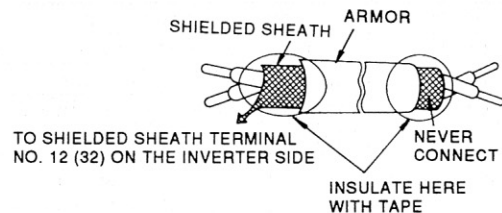

Fig. 3 Preparation of Shielded Cable Ends
- (1) The wiring for the control signals (terminals TC1 to TC4) of the analog reference card AI-14B should be separated from main circuit wiring and other power lines.
- (2) Use the shielded lead for control signal wiring and terminate the cable end as shown in Fig. 3 (to prevent malfunction due to noise). Wiring length should be 10 m or less.
- (3) If any of control signal input terminals TC1 to TC3 are not used, be sure to connect them to 0 V terminal (TC4).